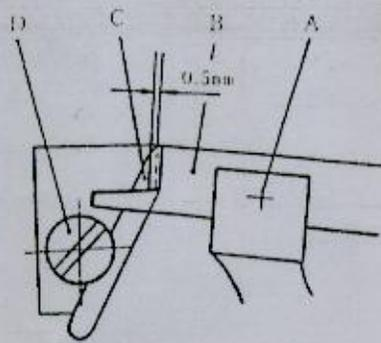

Fig. 12
Model GK35-8 thread chain cutter are driven by mechanism. The knife (C, Fig. 12) is positioned in the tapered slot in the front of base by screw (D). The cutting steel (B) is positioned in the slot of the knife holder by screw (A) and making reciprocating motion by running of the machine. In cutting, the edge of the cutting steel and the knife should overlap by 0.5mm (.020 in.). For adjustment, loosen screw (A) and (D), set as required, retighten screw.